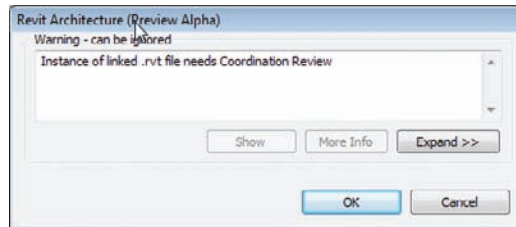

FIGURE 20.13 The Coordination alert
5. Open the architectural model. When it opens, you may get the warning shown in Figure 20.13.